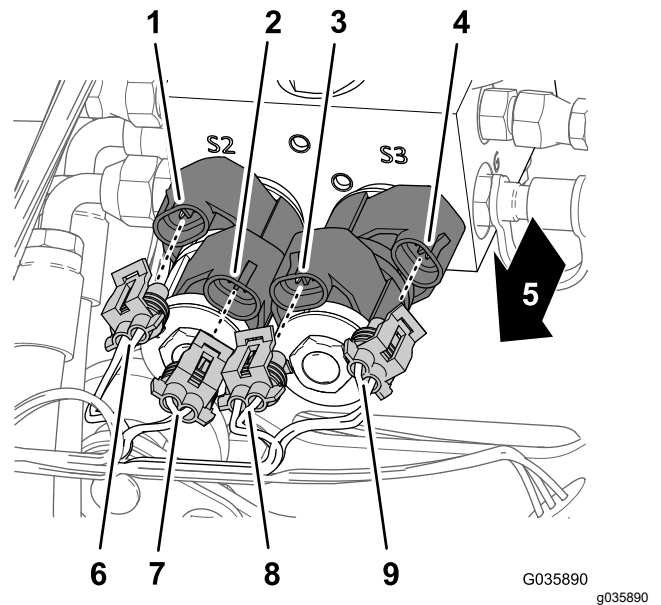

Figure 26
1. At the front of the lift-cylinder manifold, connect the 4 electrical connectors of the wire harness for the sonic boom to the solenoids for controlling boom lift as shown in Figure 26.